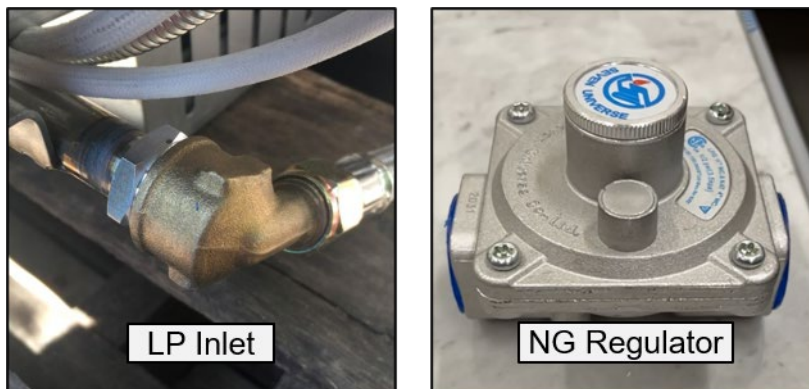

Figure 31 Gas Inlets
- LP gas inlet – 90° angled brass fitting (Figure 31 left), 1/2" opening on one side, 3/8" on the other
- NG gas inlet – regulator with 1/2" opening on each side (Figure 31 right); an arrow or the words IN and OUT should indicate the gas flow direction - If regulator is installed the wrong way it will not work and gas won't flow